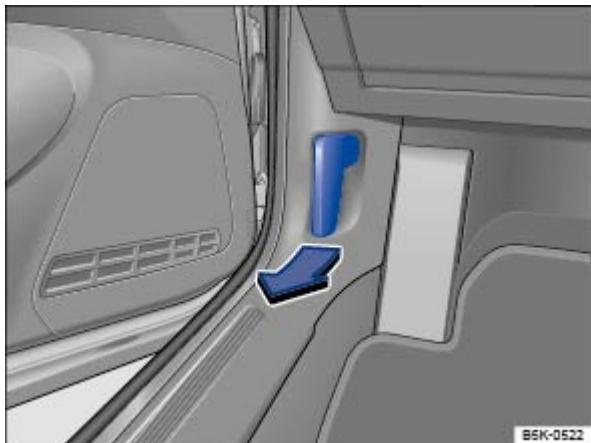

Fig. 176 In the footwell on the driver side: Inside engine hood release lever.
- Open the driver door and pull the inside hood release lever in the direction of the arrow \Rightarrow Fig. 176. The engine hood is released from its latch by a spring \Rightarrow .